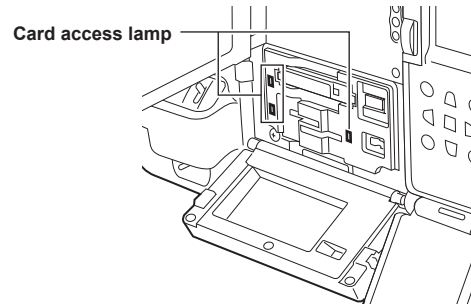

Fig. 2
**5 Confirm that the card access lamp of the card slot that the memory card is inserted is illuminated in orange. (Fig. 2)**